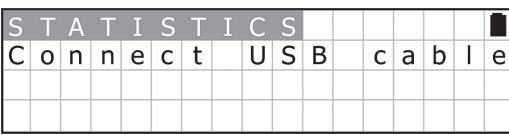

Figure 20 Acceptance Log Standby Screen 1
3. Connect the USB Port of the Validator to the DT-300™ Device using a proper USB Cable (See Figure 20). Once detected, the connection between the Validator and the DT-300™ will automatically begin to receive the Validator’s Acceptance Log.